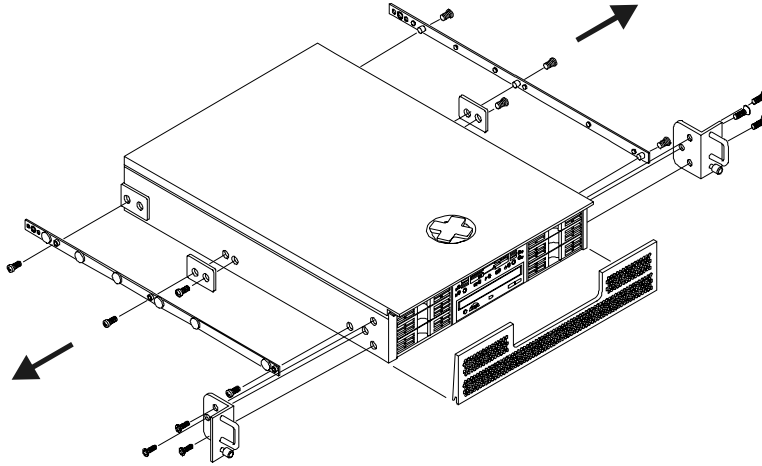

Figure 8-3. Removing Existing Hardware
2. Remove the slides from the sides of the chassis. See Figure 8-3.
3. If you are center-mounting the HP Netserver, remove the center spacers (attached to the chassis under the slides). See Figure 8-3.
4. If you are flush-mounting the HP Netserver, remove front bezel and the front brackets. See Figure 8-3.